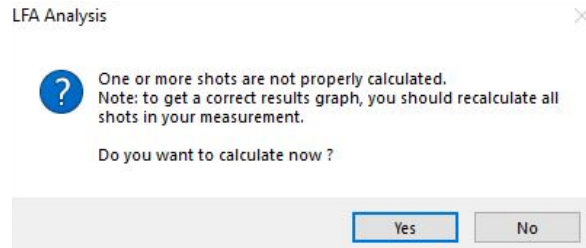

Figure 38. Calculate the selected shots pop-up window.
- Select Yes to get correct results when the pop-up window appears (as shown in Figure 38).